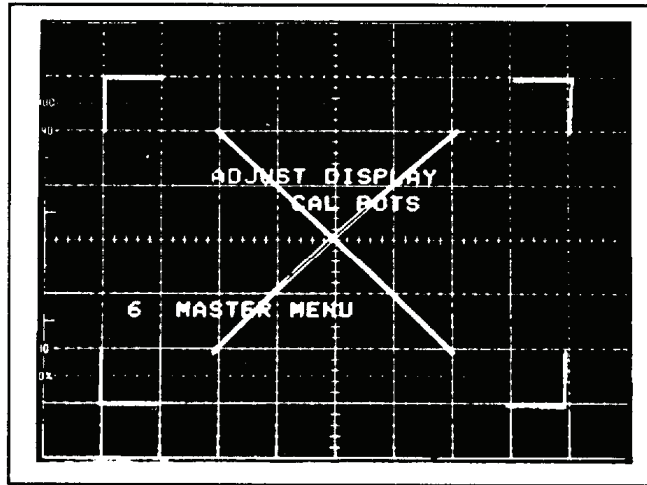

Figure 1. Display adjustment pattern.
- f. While observing the adjustment pattern on the TI display, adjust **VERT GAIN**, **VERT CTR**, **HORIZ GAIN**, and **HORIZ CTR** adjustments to place the corner markers of the displayed pattern on the center 6 X 8 divisions of graticule, as shown in figure 1.
- g. Adjust **VECT LIN** for minimum trace separation of the diagonal lines on the display pattern as shown in figure 1.